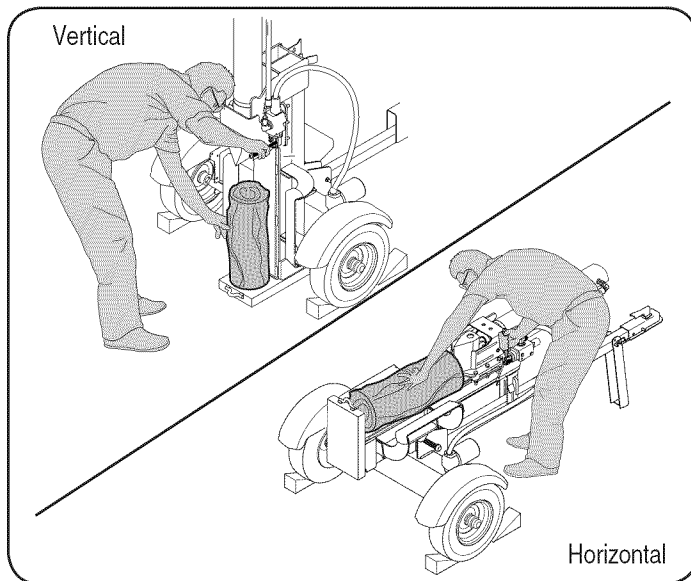

Figure 1
6. Always operate this machine from the operator zone(s) specified in the manual. See Figure 1.